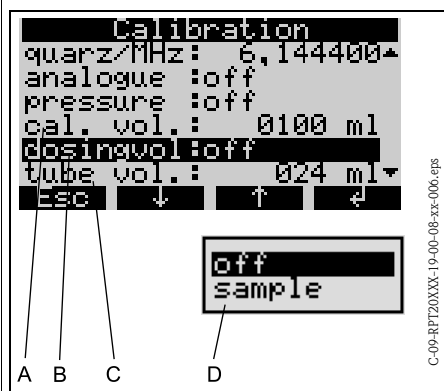

Fig. 19: Menu level CALIBRATION
4. Select the menu level CALIBRATION in the controller (→ Fig. 19; over: SETUP - SERVICE - CALIBRATION).
5. Enter the required calibration volume into the menu point CAL.VOL. (→ Fig. 19, pos. A).
6. Select menu point "DOSING VOL" (→ Fig. 19, pos. B).
7. Start a sample sequence by selecting the function SAMPLE in the selection list (→ Fig. 19, pos. D). Wait until the sampling sequence has ended.